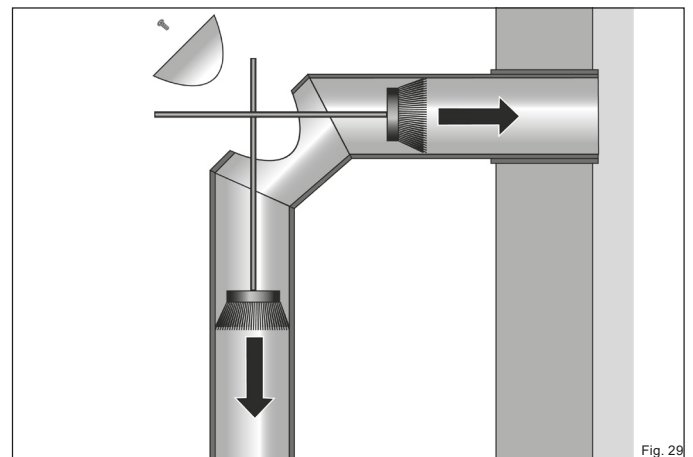

Fig. 29
- ▶ Open the clean-out port on the flue pipe (Fig. 29).
- ▶ Sweep the deposit to the back into the chimney and down into the stove (Fig. 29).